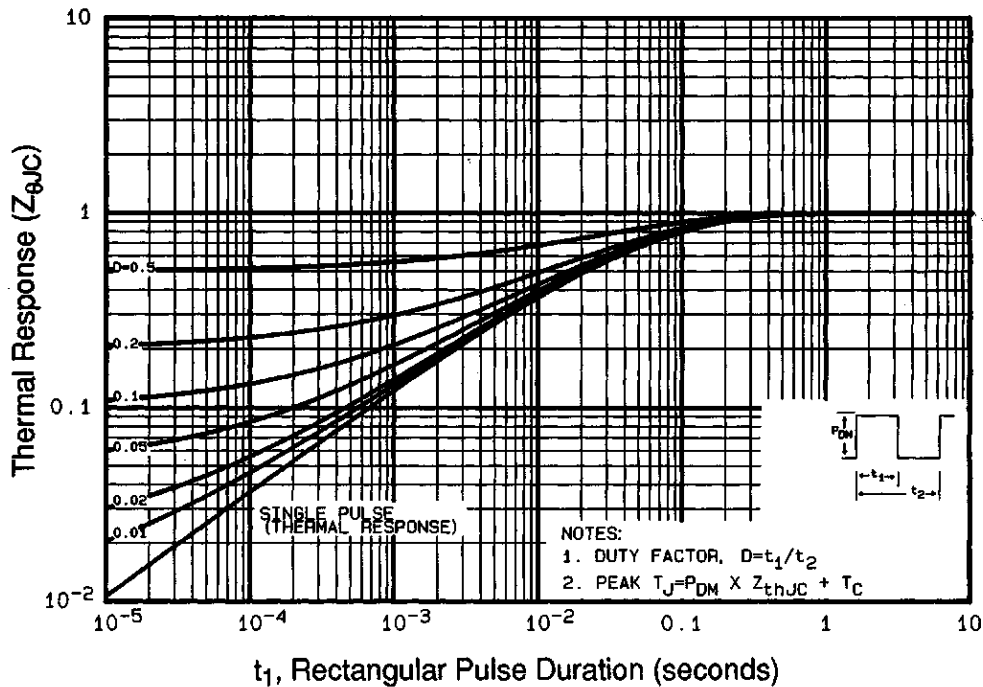

Fig 11. Maximum Effective Transient Thermal Impedance, Junction-to-Case
① Repetitive rating; pulse width limited by max. junction temperature (See Figure 11)
③ $I_{SD} \leq 8.0A, di/dt \leq 100A/\mu s, V_{DD} \leq V_{(BR)DSS}, T_J \leq 150^\circ\text{C}$